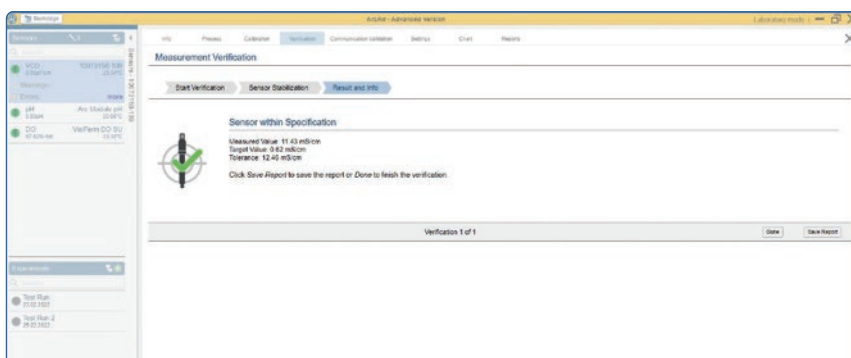

Figure 57: Successful Sensor Verification.
- 9) The successful verification is shown, in case the verification was not successful press done and try again once (Figure 57)